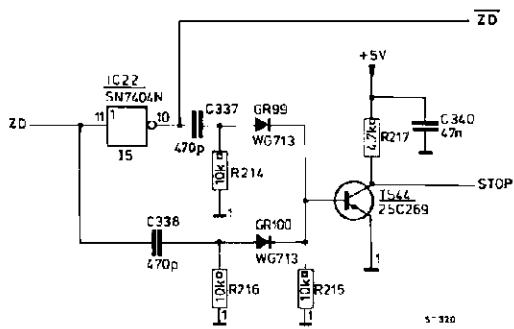

Fig. 15. Stop signal generator
2. Stop signal generator (Fig. 15)
c. DOWN signal (Fig. 15)